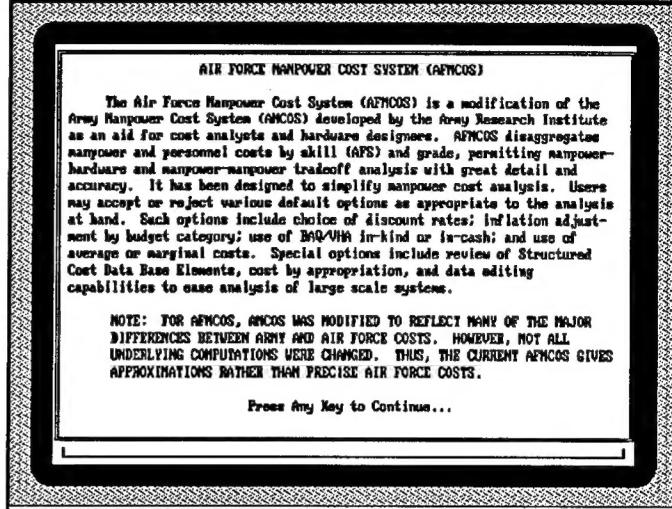

Figure 2.
**Operation:** You may view a brief description of the AFMCOS Life Cycle Cost Model. (Figure 2.)